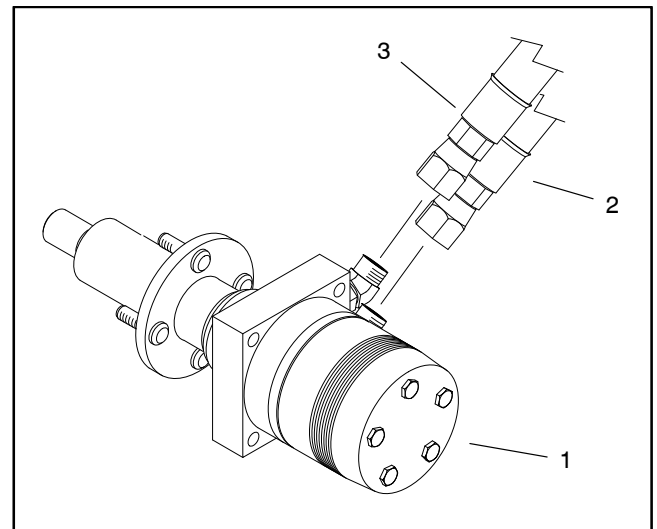

Figure 8
1. Thoroughly clean junction of hydraulic hoses and fittings on hydraulic motor (Fig. 8).
4. Remove grease seal (item 12) and snap ring (item 11) from the long end of hub.
5. Remove washer (item 10), two (2) thrust washers (item 9) and hub (item 5) from the hydraulic motor shaft.
6. Remove remaining two (2) thrust washers (item 9), washer (item 10), snap ring (item 11) and grease seal (item 12) from the shaft.
7. If drive studs (item 7) are bent or damaged, press studs from the wheel hub and discard.
8. If necessary, press clutch roller bearings (item 6) from the hub. Discard removed bearings.